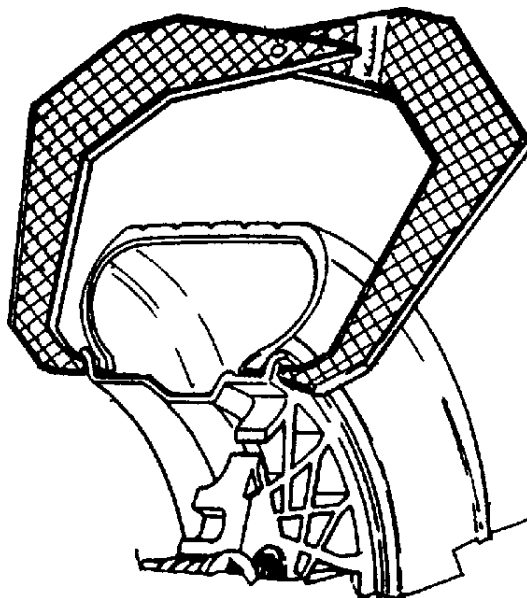

Figure 22
**4.5.2. Measure rim width** using rim width calipers. Measure wheel where corrective clip-on weight would be applied, *Figure 22*. Enter the measured width by rotating the width/offset knob until the desired value appears in the left display.